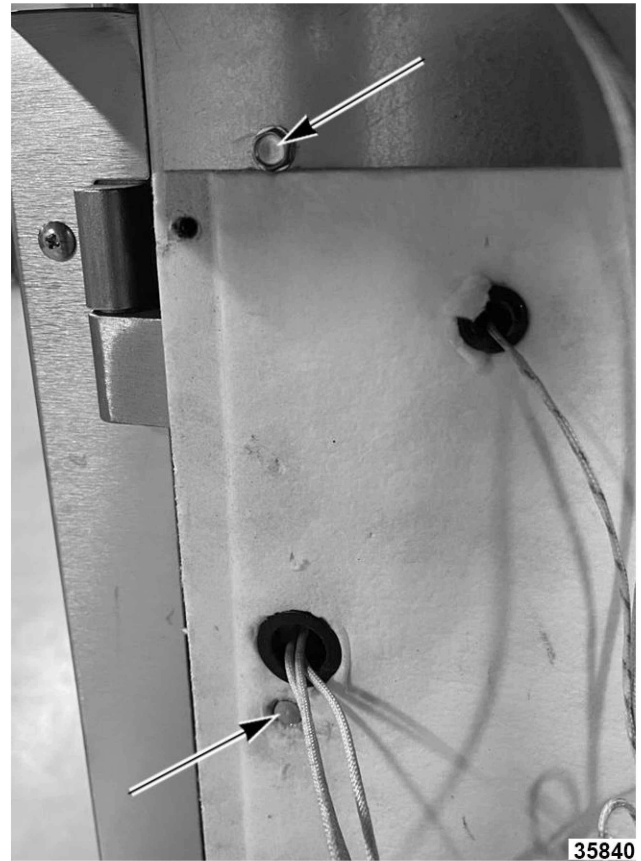

Fig. 42
9. Remove five front right side insulation panel screws (Fig. 42).